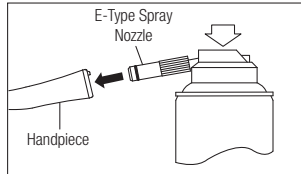

Fig. 7
- 2) Insert the Spray Nozzle into the rear of the handpiece. Hold the handpiece and spray for approximately 2-3 seconds. Apply lubricant until it expels from the handpiece head for at least 2 seconds (Fig. 7).
- 3) Lubricate handpiece by using NSK PANA SPRAY Plus / PANA SPRAY (Fig. 7) or NSK automatic handpiece cleaning and lubrication system.